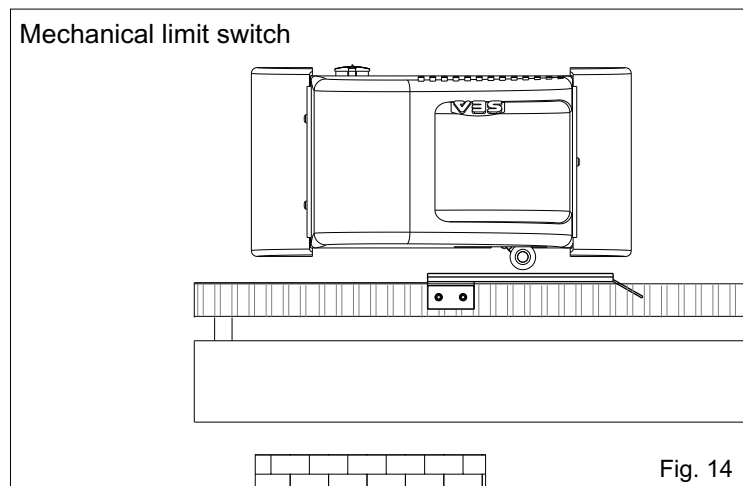
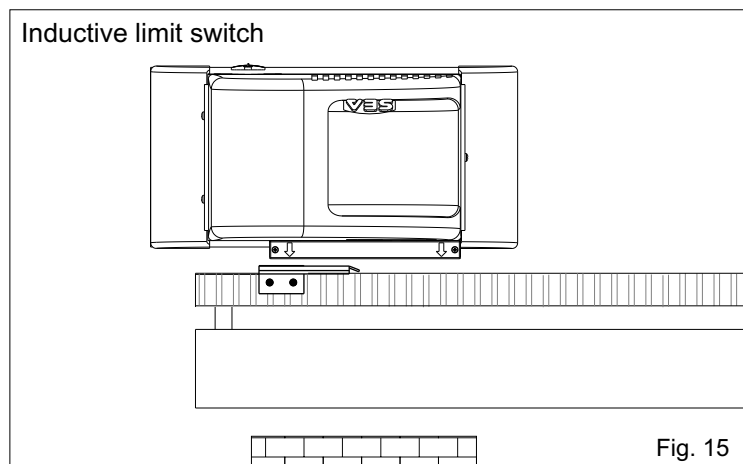
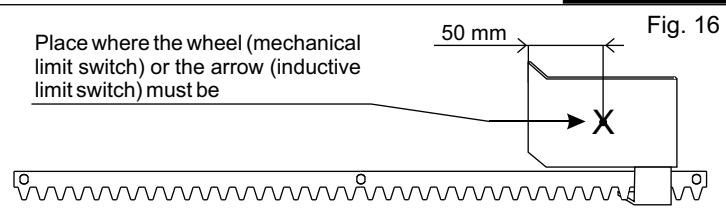
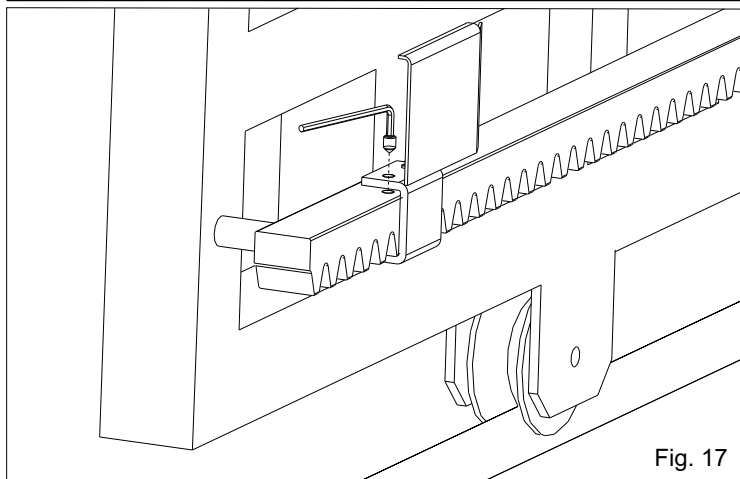

Fig. 14
Fig. 15
Fig. 16
Fig. 17
- Place the limit switch plate on the gear rack to have the limit switch (lever in case of mechanical limit switch (Fig. 14); pointers placed in the higher part in case of inductive limit switch (Fig. 15)) in correspondence with the X point which is 50 mm from the folded side of the plate (Fig. 16) and fix it with the supplied screws (Fig. 17).
- Place the limit switch plate on the gear rack to have the limit switch in correspondence with the X point which is 50 mm from the folded side of the plate (Fig. 16) and fix it with the supplied screws (Fig. 17).